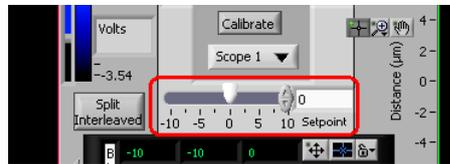

Figure 62: The Setpoint Slider
- You can adjust the setpoint using the slider between the two scopes (see Figure 62 below), or by entering a value in the numerical field and pressing the Tab key. You can also change the setpoint in the SPM Control tab during the scan. Increasing/Decreasing the setpoint might be required during the scan according to the tip used or the sample.